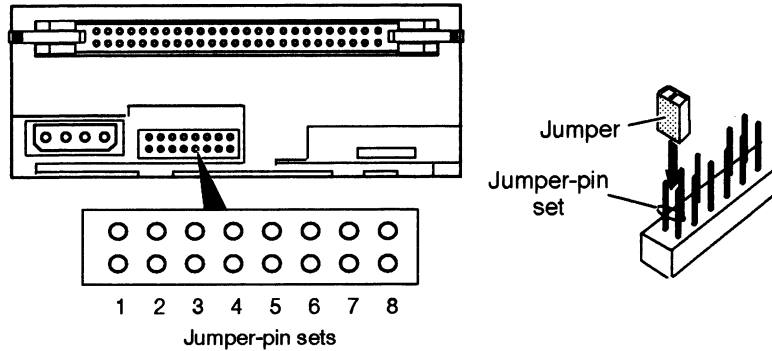

Figure 2 Location of the jumper-pin set
- 2. Once you choose the SCSI ID number, install the jumpers for that number according to Table 2. Refer to Figure 2 for the location of the jumper-pin sets on the drive.**